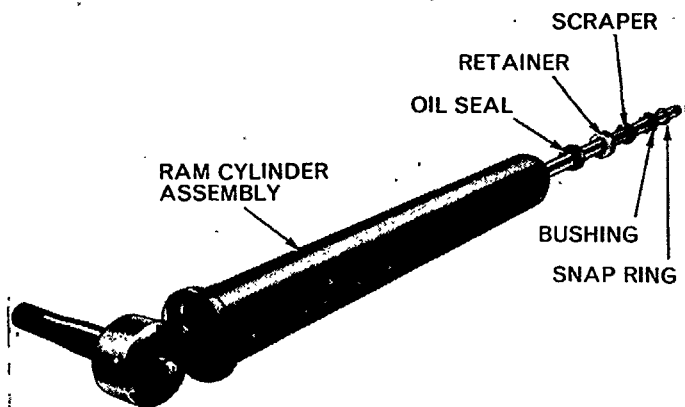

Figure 49
5. Remove the piston rod bush retaining snap ring and remove the scraper, outer seal, retainer and inner seal, Figure 49.